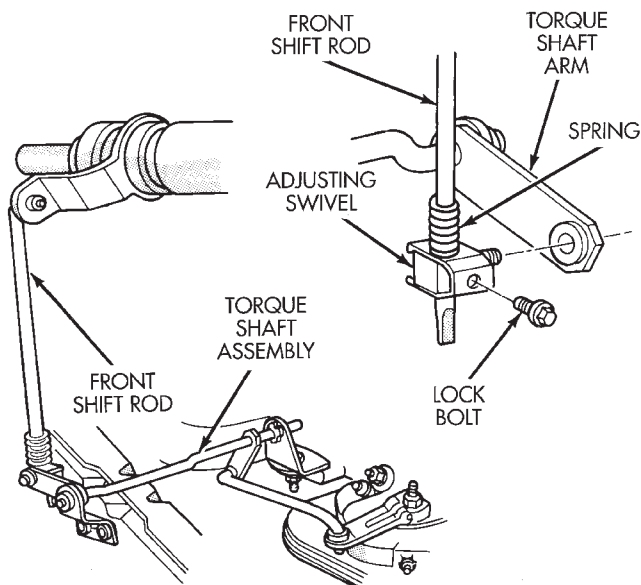

Fig. 256 Linkage Adjustment Components
Check condition of the shift linkage (Fig. 256). Do not attempt adjustment if any component is loose, worn, or bent. Replace any suspect components.
- (1) Shift transmission into Park.
- (2) Raise and support vehicle.
- (3) Loosen lock bolt in front shift rod adjusting swivel (Fig. 256).
- (4) Ensure that the shift rod slides freely in the swivel. Lube rod and swivel as necessary.
- (5) Move transmission shift lever fully rearward to the Park detent.
- (6) Center adjusting swivel on shift rod.
- (7) Tighten swivel lock bolt to 10 N·m (90 in. lbs.).
- (8) Lower vehicle and verify proper adjustment.